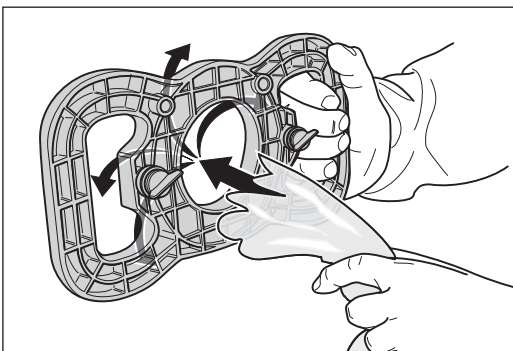

Fig. 19 Insert the waste bag into the emptying fixture.
- 8 Hold the handle of the emptying fixture and insert a waste bag from the ribbed side through the opening in the centre of the fixture (Fig. 19).